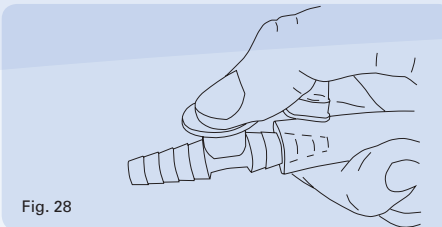

Fig. 28
2. Control the aspiration procedure and the desired vacuum via the additional air opening on the fingertip (example in fig. 28).